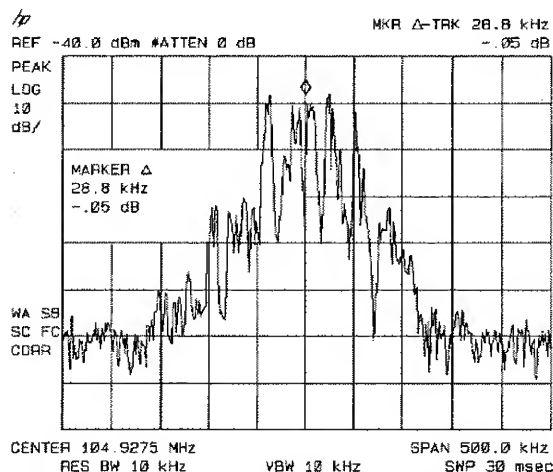

Figure 3-9. Using Marker Tracking to Track an Unstable Signal
- The signal frequency drift can be read from the screen if both the marker track and marker delta functions are active. Press **(MKR)**, **MARKER Δ**, **(MKR FCTN)**, **MK TRACK ON OFF**; the marker readout indicates the change in frequency and amplitude as the signal drifts. (See Figure 3-9.)